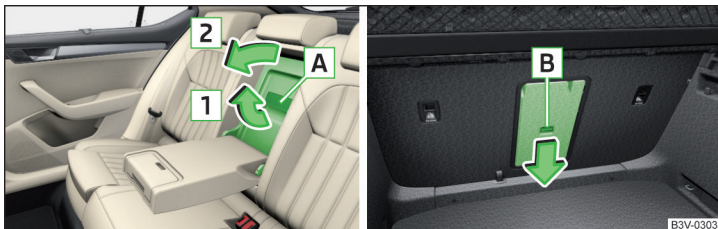

Fig. 127 Open lid: from the passenger compartment / from the luggage compartment
- ▶ Pull opening lever **A** » Fig. 127 in the direction of arrow **1** until it stops. The catches on the cover must engage completely in the lid and click into place.
- ▶ Fold the rear armrest and the cover in the seat backrest downwards » Fig. 127 on page 99.